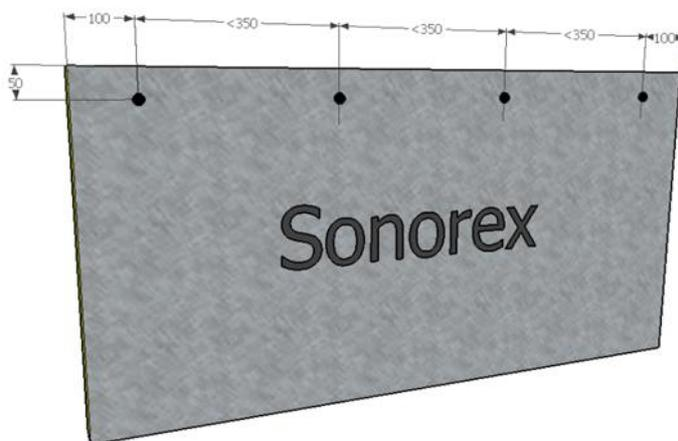
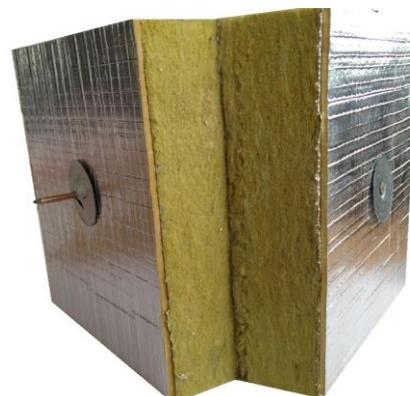

Figure 1, Location of Sonorex® Screw and/or Locking Pin
Figure 2, Locking pin and plate
14. The Sonorex® Easy Mass Foil is self-adhesive. We however recommend that the foil should be secured in place in order to ensure the quality of noise insulation panels in the long term. The Sonorex® Screw and/or Locking Pin to attach the mass foil will not adversely affect the noise insulation properties of the relevant Sonorex noise insulation panel. For details of the location and distances of the Sonorex® Screw and/or locking pin, please see Figure 1. The locking pin should be fully inserted through the insulation panel and locked in place with a locking plate on the other side. See Figure 2.